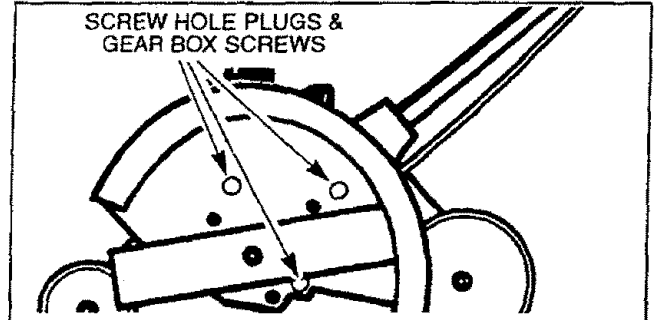

Figure 18
STARTER ROPE REPLACEMENT (Fig. 18, 19, 20, 21 & 22)
- Remove the three rubber screw hole plugs using needle nose pliers. Fig. 18.
- Remove the three gear box screws. Fig. 18.